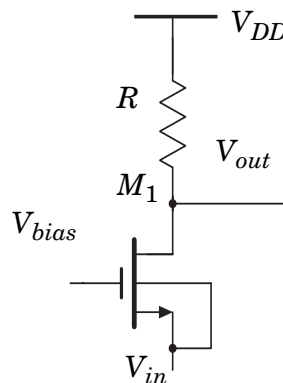

Figure 1.1 A simple gain stage.
- a) Sketch the output voltage for the circuit shown in Figure 1.1. The input voltage is in the interval of gnd and V_{DD} . (3p)